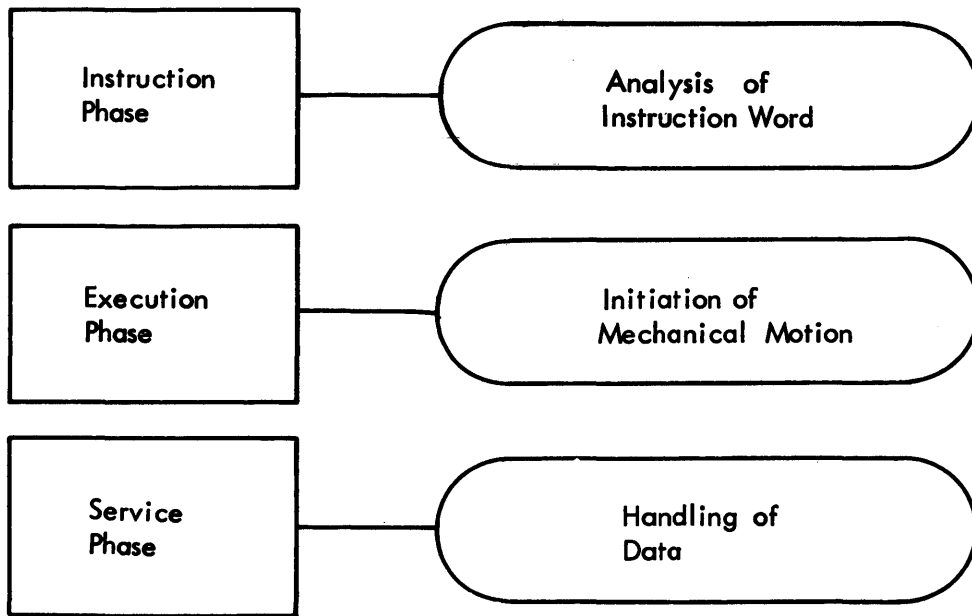

Figure 3-41 I/O Phase
- There are three phases for each I/O operation (Figure 3-41).
- The Instruction (I) phase analyzes the meaning of an instruction.
- The I/O Execute (E) phase sets an Execute Condition latch (one for each I/O unit) and initiates mechanical operation of an I/O unit.